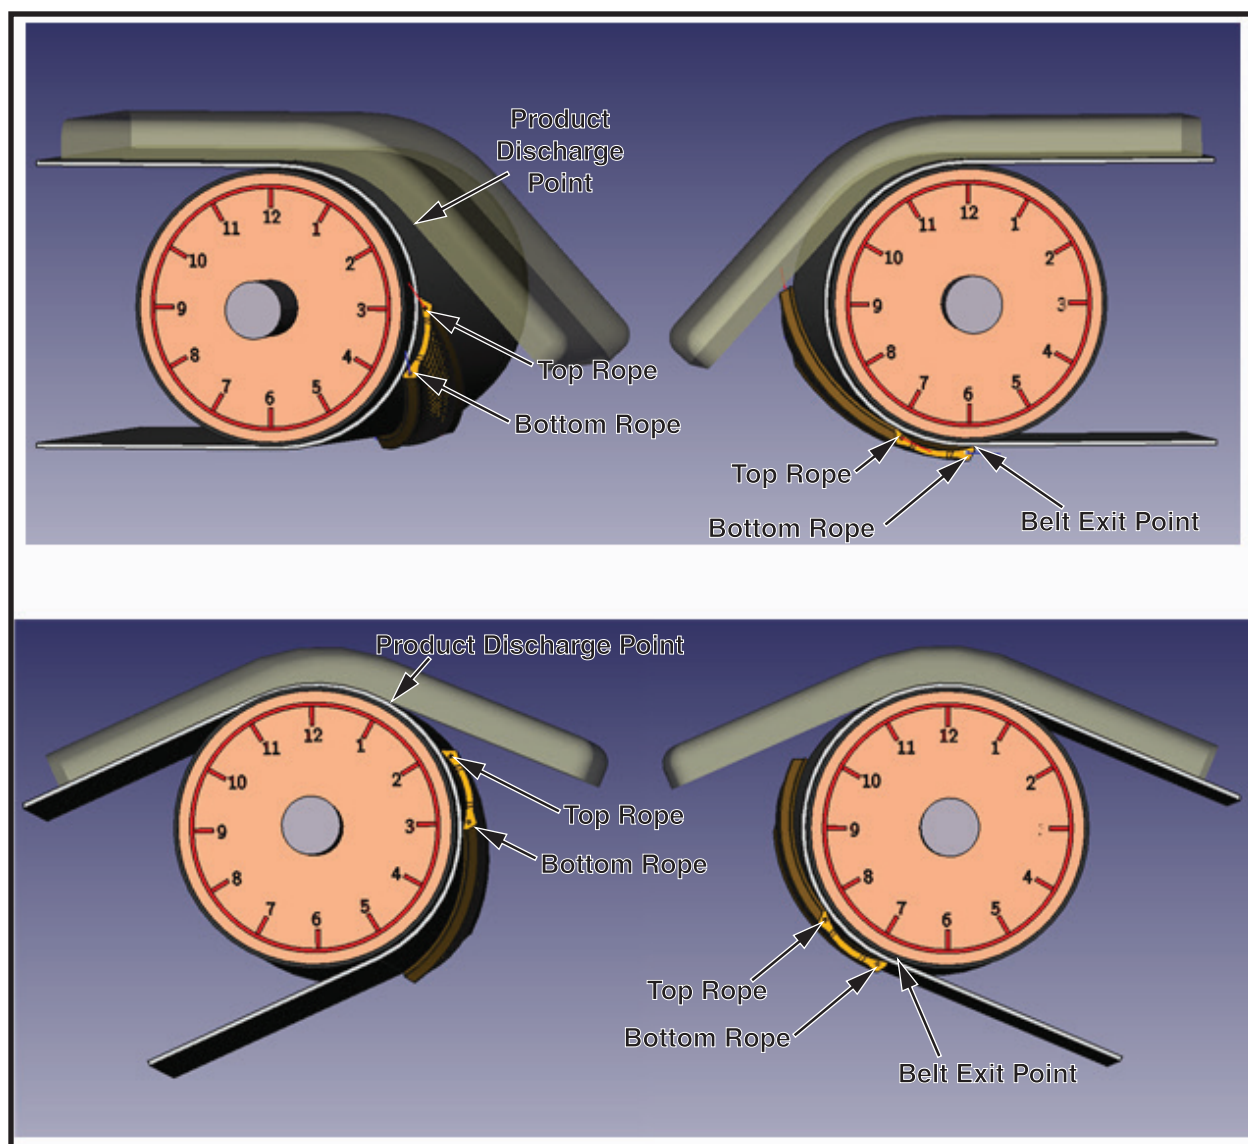
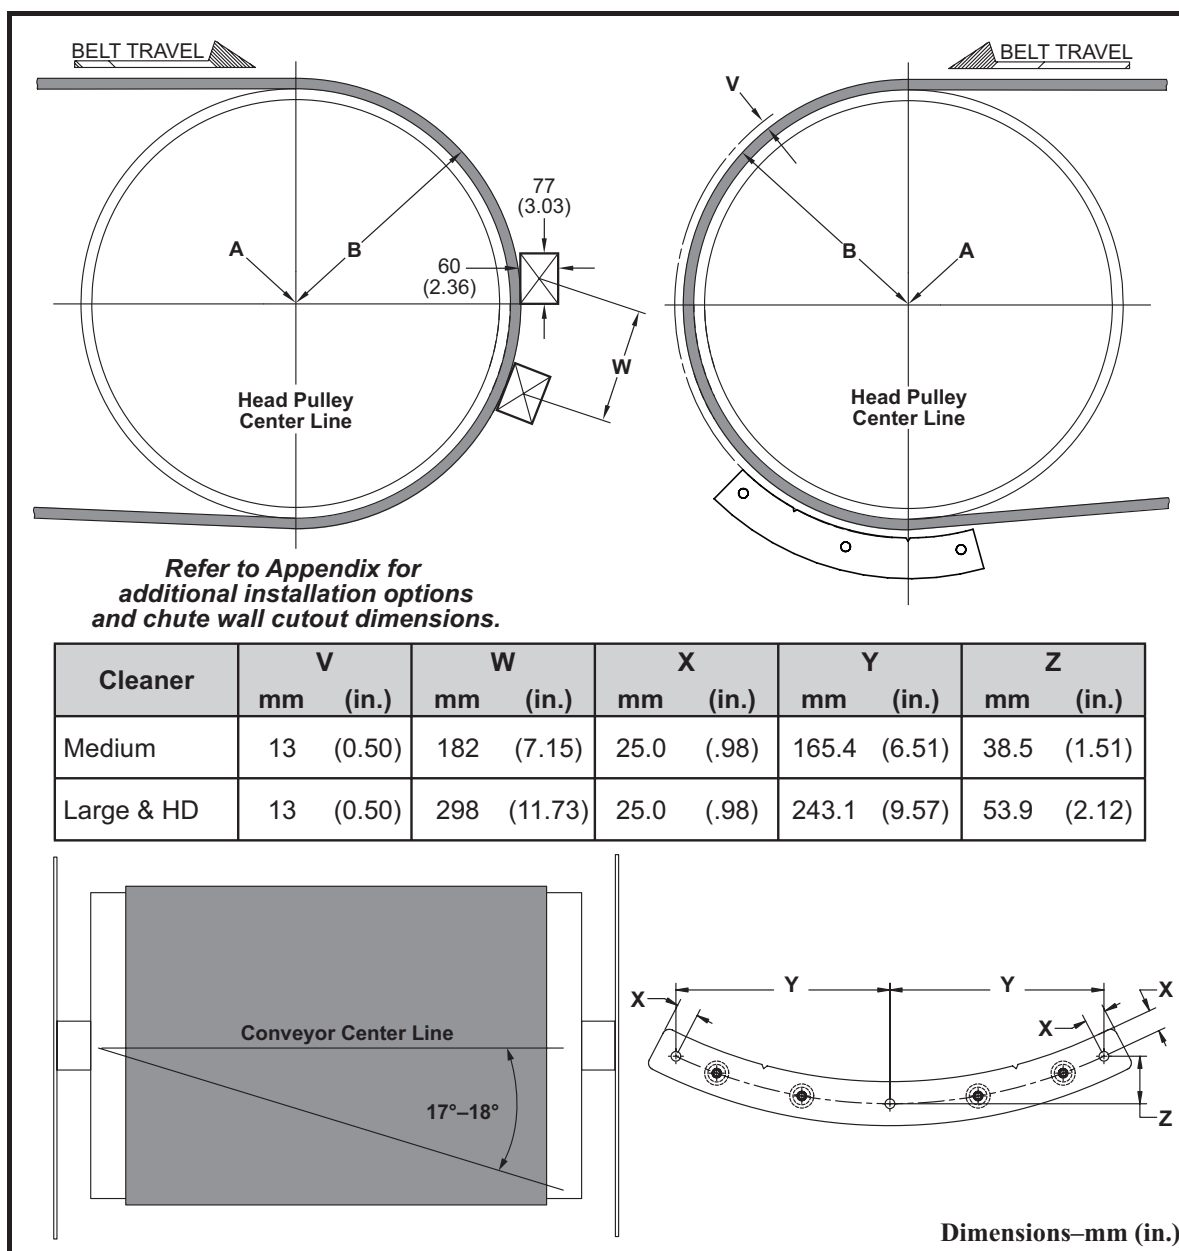

Figure 2. Typical Belt Cleaner Mounting Positions
Figure 6. Belt Cleaner Location & Chute Wall Cutouts
1. On both sides of chute, find pulley center point (A).
2. Measure radius of head pulley including lagging and belt thickness (B). To this dimension, add dimension X from Figure 6.
3. On the far side chute, start from center point (A), measure the total distance calculated in step 2 ($B + X$), and draw an arc on chute wall.
4. On the operator side of chute, start from center point (A), draw an arc on chute wall with radius of (B).
- a. Draw a centerline of the head pulley perpendicular to the conveyor belt line (see Figure 6). Rotate the bottom side mount back as far as possible in order to achieve at least 17° of belt wrap while not exceeding the belt exit (see Figures 2 & 3).
- (1) Position fixed point bracket (A) on far side chute wall as shown in Figure 6 (centerline install is used as an example).
- (2) Mark bracket hole locations.
- (3) Drill or cut three 13 mm (1/2-in) holes for screws in far side chute wall.
- (4) Mount fixed point bracket (A) to inside of far side chute wall using countersunk screws (B) and nuts.
- (1) Position fixed point bracket on far side chute wall as shown in Figure 6 (centerline install is used as an example).
- (2) Weld bracket to chute wall. Weld completely around bracket. Do not skip weld.
- b. Draw a line at 17° from bottom hole of bottom bracket to location of bottom hole on top bracket, or utilize a string or elastic band to locate proper angle. Attach string to bottom hole on bottom bracket and hold it to head pulley centerline at 6:00 o' clock position on opposite chute, check angle, adjust angle to stay below product discharge point (see Figures 2 & 3). Mark location for bottom hole of top side tensioner.
- c. Position weld plate as shown in Figure 6. The bottom of the cutout should be the conveyor centerline. The edge of the cutout should be tangent to the belt edge. Mark chute wall cutout as shown in Figure 6.
- d. Mark upper bracket chute wall cutout as shown in Figure 6. Dimension Y is equal to the distance between mount holes on far side bracket.